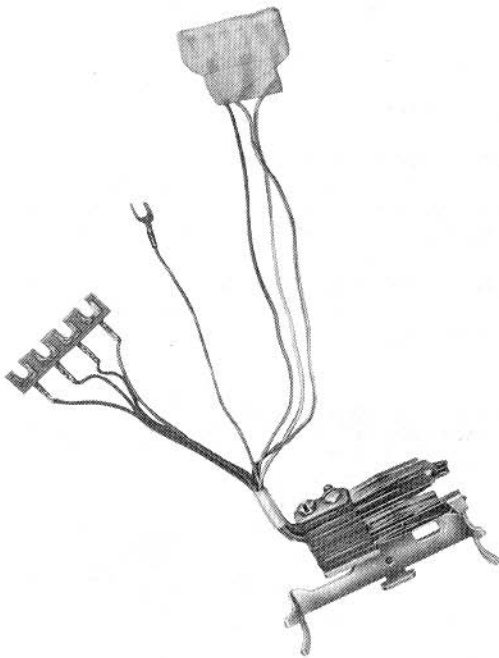

Fig. 7—812551182 (P-25E118) Exclusion Switch
**2.10** The 812551182 (P-25E118) exclusion switch assembly terminates in individual and wafer strip spade-tipped conductors (Fig. 7). This allows adaption of the exclusion feature to any one of the pickup buttons.